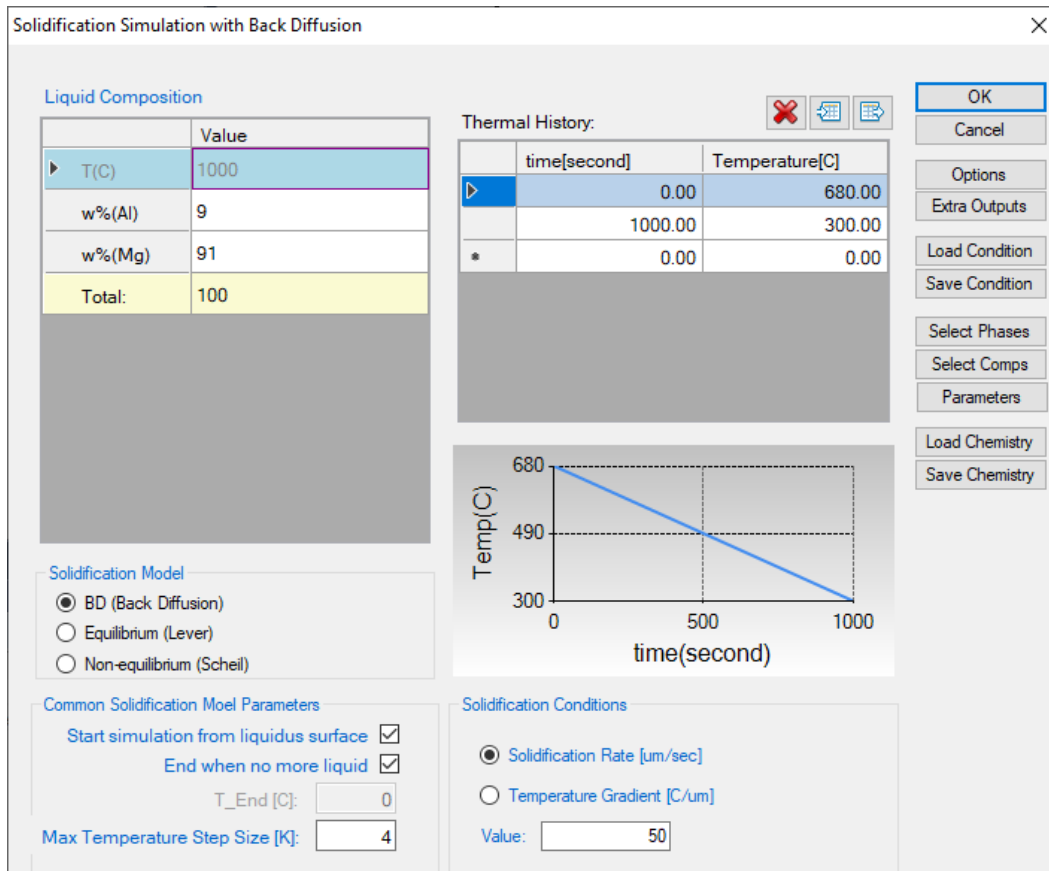

Figure 5.1.2: Set solidification conditions
- Set Solidification simulation conditions as shown in Figure 5.1.2. The alloy composition is Mg-9wt.% Al. The cooling rate is 0.38 K/s is setting in Thermal History solidifying from 680 °C to 300 °C with 1000 second. Solidification rate is set as 50 μm/s. Please pay attention to the units of the time and length when set conditions.